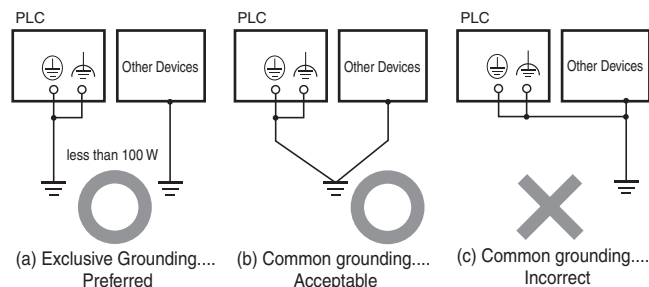

Figure 12. Grounding Methods
(2) As much as possible use independent ground (keep grounding pole at least 10m away from other grounding poles).
- ① Use Ground to 100 W or less, and use independent ground which is separated from the grounding of other devices (See Figure 12 (a))
- ② If using an independent ground is not possible, then use a common ground as shown in Figure 12 (b). Connect to the ground pole of the other device.
- ③ Never connect to the same ground as a device that draws a large amount of power, such as a motor or inverter. Ground the devices separately to avoid mutually adverse influences.
- ④ To prevent electrical shock, do not connect to ground poles (especially steel frames) to which multiple devices are connected.
- ⑤ As much as possible keep the grounding pole close to the PLC, and keep the grounding line short.